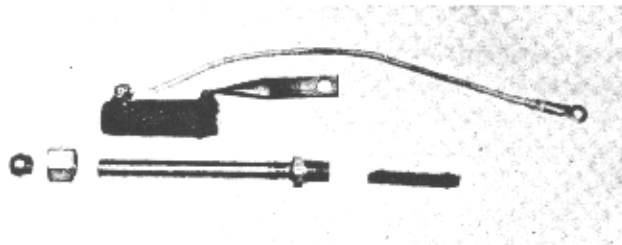

Figure 11—Standpipe and Vaporizer Pad
1. The fuel valve standpipe (Figure 11) connects the fuel valve to the igniter pocket in the heat exchanger. The vaporizer pad is a stainless steel wire mesh wick, and is partially threaded into the heat exchanger end of the standpipe. When the standpipe is screwed into the igniter pocket, the pad extends inside where it is saturated by the fuel flowing from the valve to the exchanger.